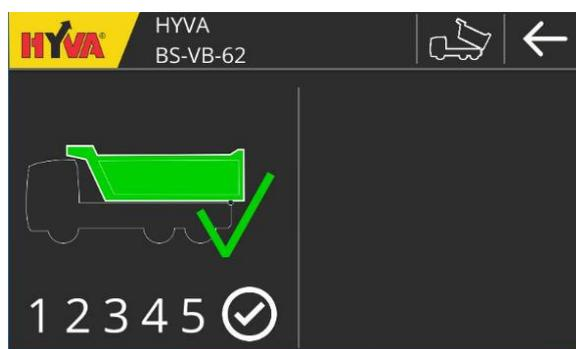

FIGURE 16 PAYLOAD CALIBRATION – STEP 5
Step 5 (Figure 16): payload calibration is done.